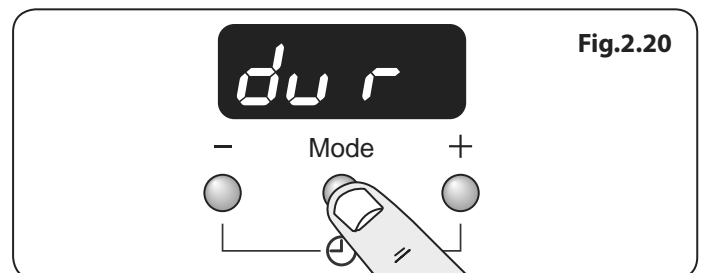

Fig.2.20
1. Press the mode [Mode] button, until the display flashes 'dur' (Fig.2.20).